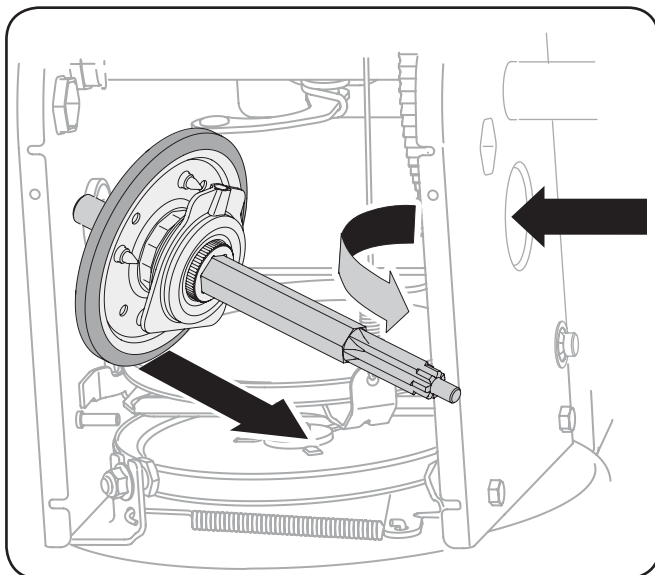

Figure 7-10
6. Carefully position the hex shaft downward and to the left before carefully sliding the friction wheel assembly off the shaft. See Fig. 7-10.